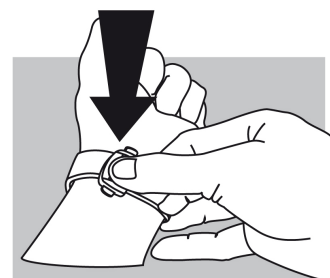

fig.2
**Closing (fig. 2):** put the watch on your wrist and close the clasp by pushing on it with your thumb until you hear a click. (fig. 2).